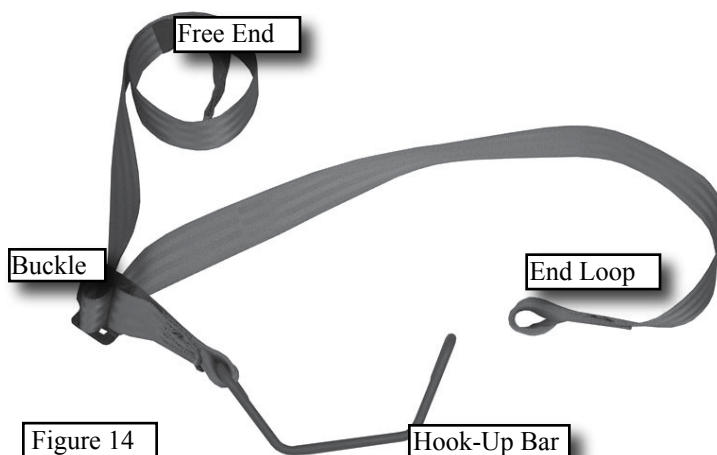

Figure 14
Step 3. Bring up the Attachment strap - A diagram of the strap is shown in **Figure 14**.